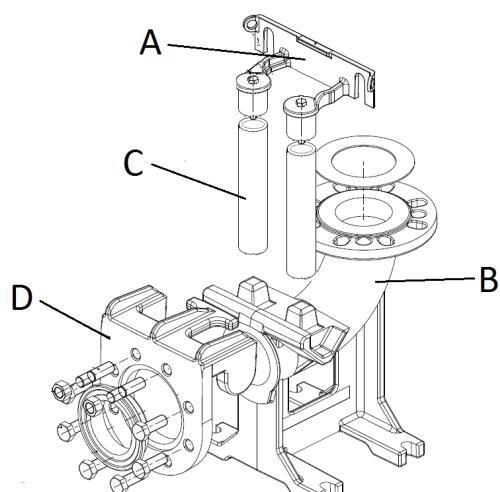

Fig. 5
- Fix the upper bracket for the guide pipes (fig. 5 – pos. A ) to the edge of the pit.
- Locate at bottom of pit the foot pedestal for the automatic coupling (fig. 5 – pos. B) and check that the guide pipe conical fixations are perfectly perpendicular and leveled to the correspondent fixations of the upper bracket located to the edge of the pit.
- Mark the position of the slots in the support foot, then measure the exact length of the guiding pipes (fig. 5 - pos. C).
- Assemble the special skid-flange (fig. 5 – pos. D) on the delivery outlet of the pump and hook the rope or chain to the handle or slot located on the upper part of it.